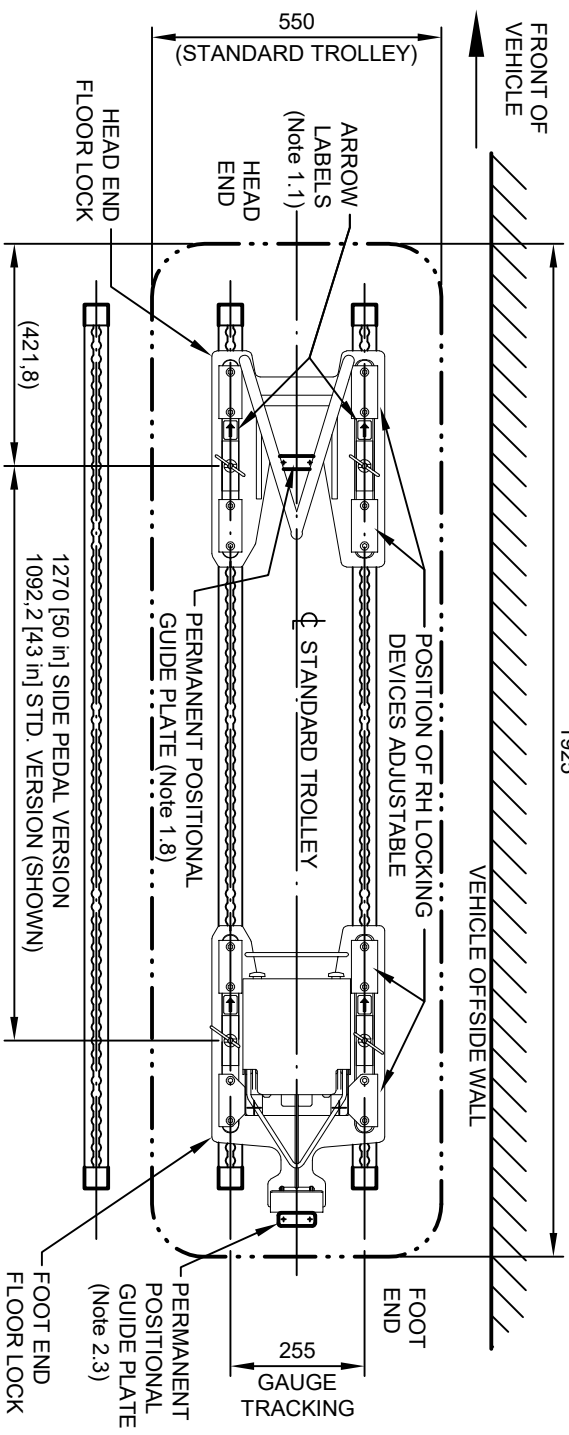

Fig. 1 - Two-part floor lock installed in standard position securing standard trolley
An adjustable width trolley in its retracted state (coils/slides in) can also be stationed near the centre of the vehicle. A standard trolley however, may be stationed in the standard position, utilizing the two tracks nearer the vehicle wall (Fig. 1).
- 1.1) Check the assemblies to ensure the Unwin locking devices are secure and positioned with the arrow labels pointing towards the end which will be positioned nearer the front of the vehicle (see Fig. 1).